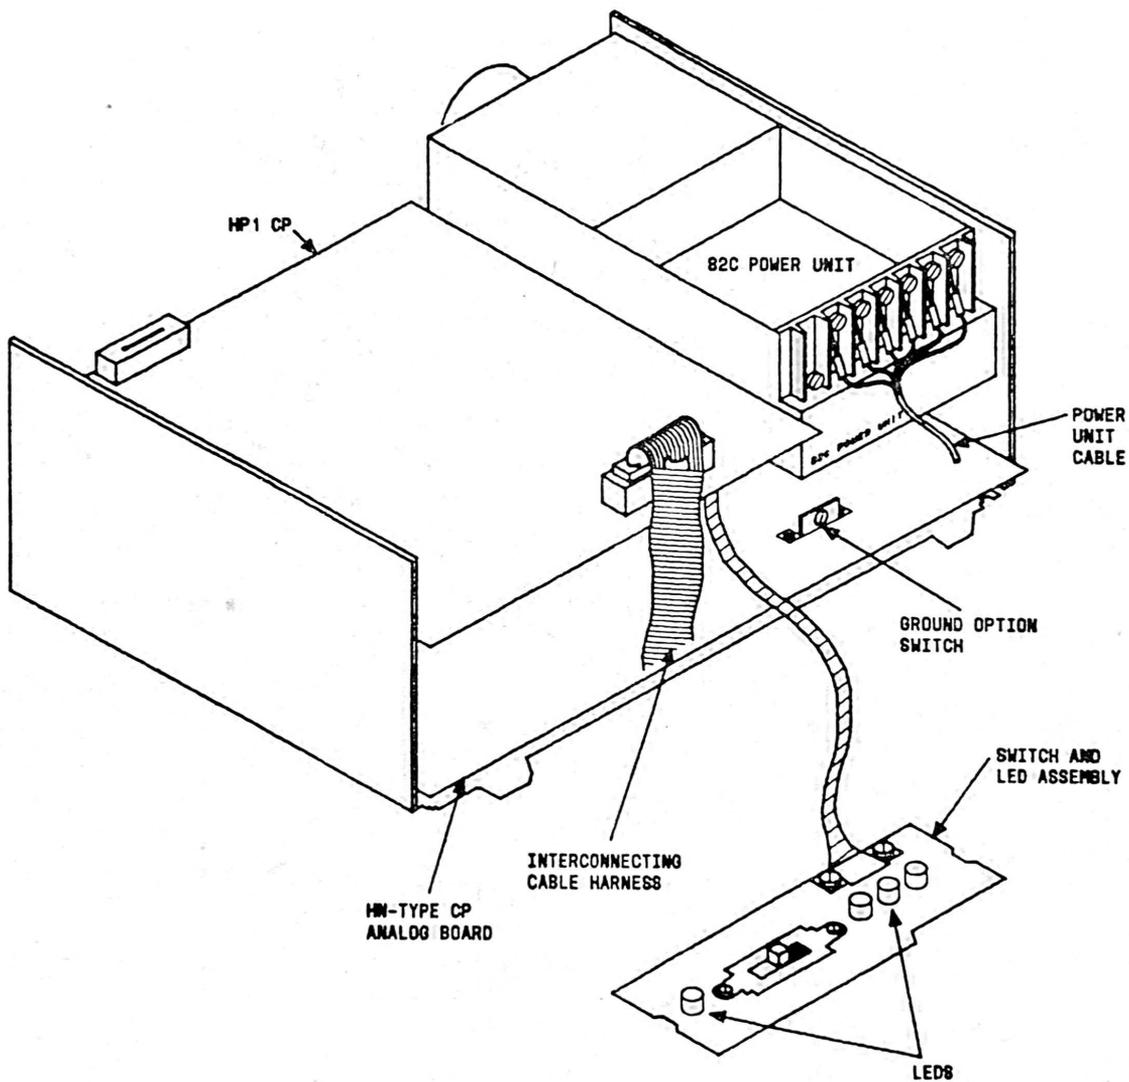

Fig. 4--500B-Type Data Service Unit--Front Internal View
**3.09** The 500B DSUs must be adapted for mounting in the 48A-L1/2. The L1/2 designation provides bearing plates which are required for mounting the DSU in the data mounting. Figures 4 through 8 depict a 500B DSU being adapted for mounting into the 48A-L1/2 data mounting. The mounting procedure is as follows: